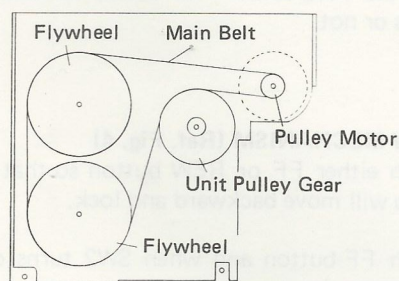

Fig. 1
4. Gum Belt Replacement (Refer Fig. 1)